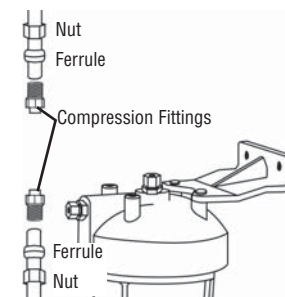

Figure 7
7. Two compression fittings are required for the tube ends. Check the tube size. Use 5/8" x 3/8", 3/8" x 3/8" or 1/2" x 3/8" compression fittings as required. Slip nut and ferrule on water tubing as shown and fasten fittings in place. (Figure 7)